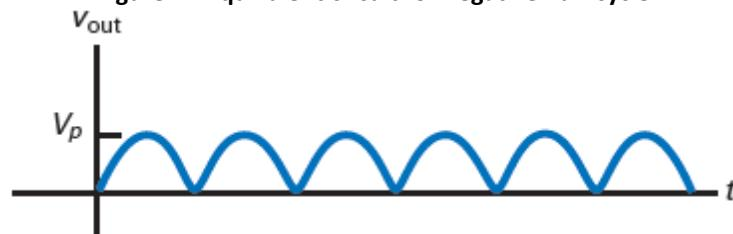

Figure-48 Full-wave output
- During both half-cycles, the load voltage has the same polarity and the load current is in the same direction. The circuit has changed the ac input voltage to the pulsating dc output voltage shown in Figure-48. Note the advantage of this type of full-wave rectification over the center-tapped version in the previous section: ***The entire secondary voltage can be used.***